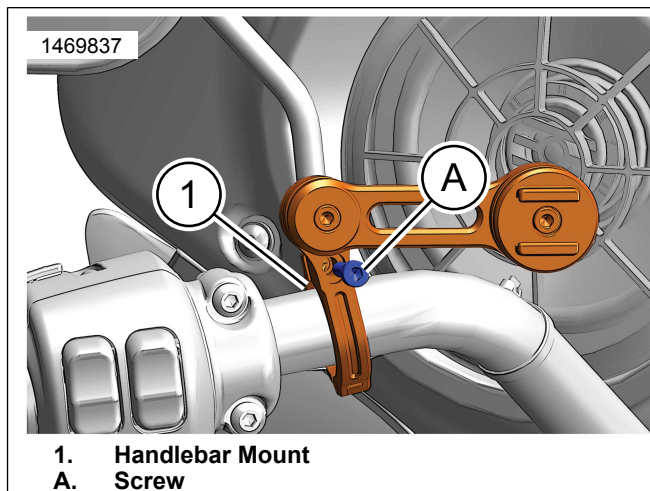

Figure 2. Phone Mount Install to Left Side Handlebar
- b. If needed, select appropriate size shim (2).
- c. Figure 2 Remove screw (A) from handlebar mount (1).
- d. Insert shim (2).
- e. Figure 2 Install handlebar mount (1) with installed shim (2) to vehicle handlebar.
- f. Prior to tightening phone mount bolt (A), adjust clocking to enable viewing without obstructing functions of the motorcycle.
- g. Install screw (A). Tighten.